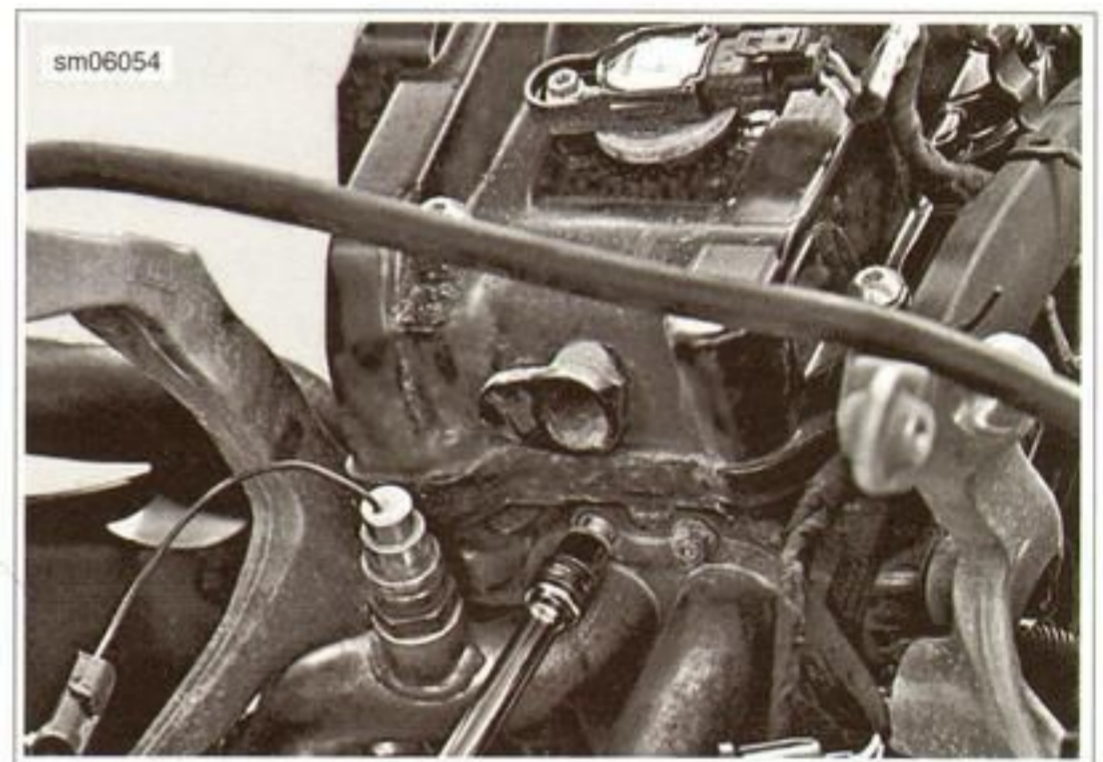

Figure 3-44. Removing Headers
3. See Figure 3-44. Remove the headers.